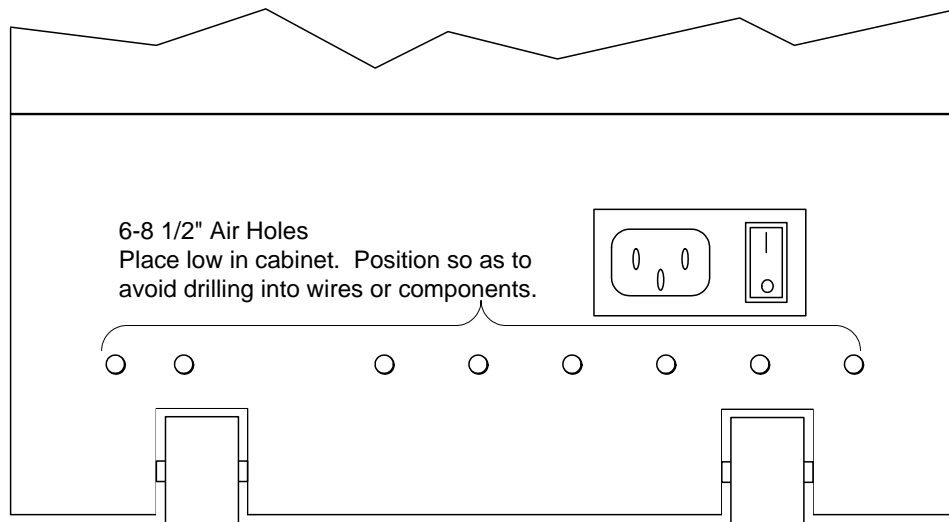

Figure 1. Drilling Cabinet Air Holes
1. Using a 1/2" drill bit, drill six to eight air holes in the lower rear of the cabinet, as shown in Figure 1. Be careful not to damage any wires or components while drilling.